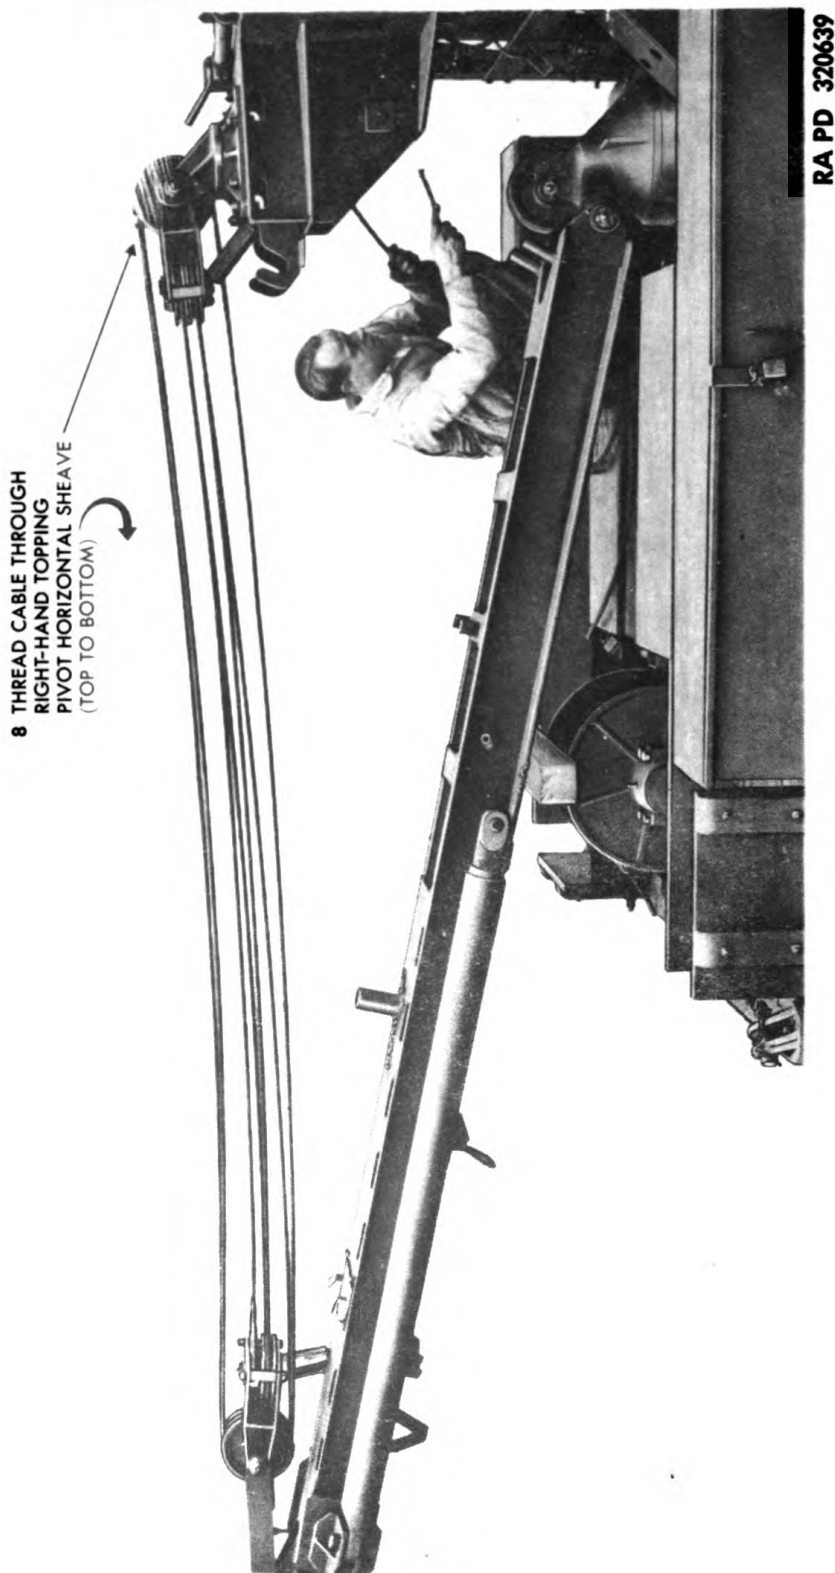

Figure 78 — Installing Boom Topping Cable
(3) Thread cable over top of the right vertical block, down through opening in topping pivot, under the right crane frame guide sheave, over top of the right fleeting sheave, directly above boom topping drum. Clamp end of line under the cable clamp on drum, and engage the boom winch to "BOOM UP," holding cable tight on drum until boom lifts. The cable is underwound on the drum (fig. 78).